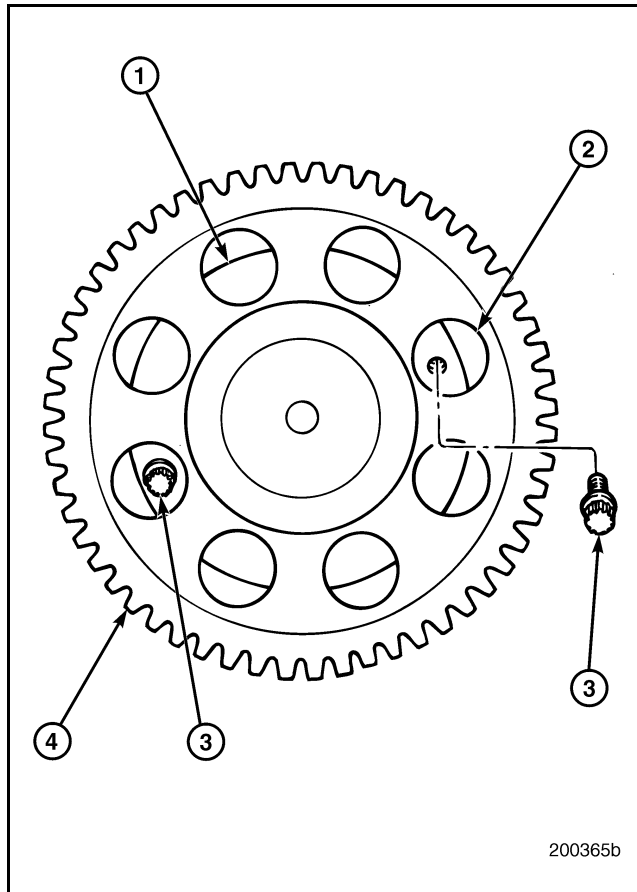

Figure 115 — Camshaft Thrust Washer Capscrews
2. Remove the two 12-point capscrews (3) that retain camshaft thrust washer (1). Camshaft may have to be rotated slightly to make the capscrews accessible through openings (2) in the camshaft drive gear (4). Refer to Figure 115.